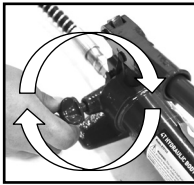
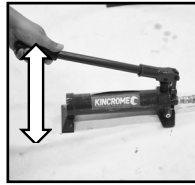

Fig.11
Fig.12
2. To operate the hydraulic pump, position it on a stable, leveled surface close to the damaged area/work area. Ensure the release valve (9) is closed by turning it clockwise (Fig 11), then pump the handle (2) to create pressure (Fig 12).